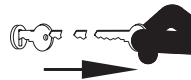

FIG. 4-41
3. Remove the carriage bolt and flange nut that secure the ridging wings to the sweep. (Fig. 4-41)
8. Install the ridging wing assembly onto the sweep with the carriage bolt and flange nut. (Fig. 4-41)